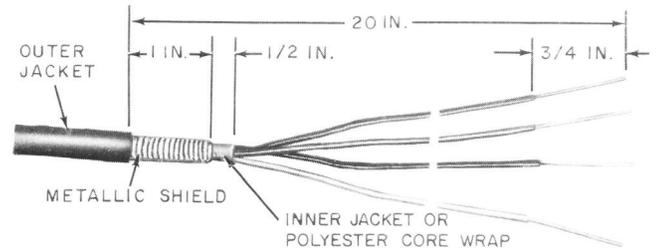

Fig. 21—Prepared Service Wire—D Cable Closure
7.03 Prepare service wire for D cable closure as illustrated in Fig. 21. A rehabilitation kit is available for use with the D cable closure (see paragraph 8.01).